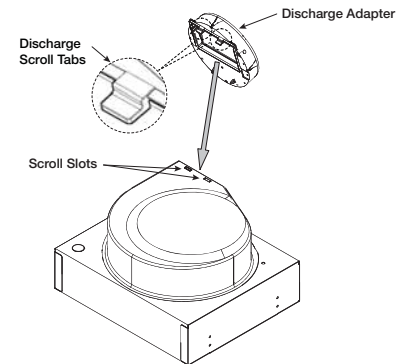

Figure 4 — Insert Discharge in Scroll
1. Insert discharge adapter tabs into the scroll slots, shown in Figure 4.